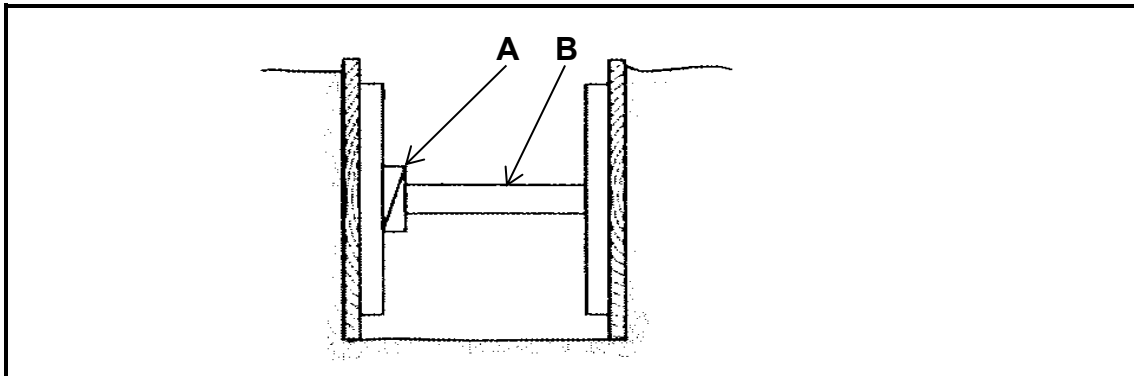

FIGURE 3.13
- 3.13 Answer the following questions regarding the structure in FIGURE 3.13.